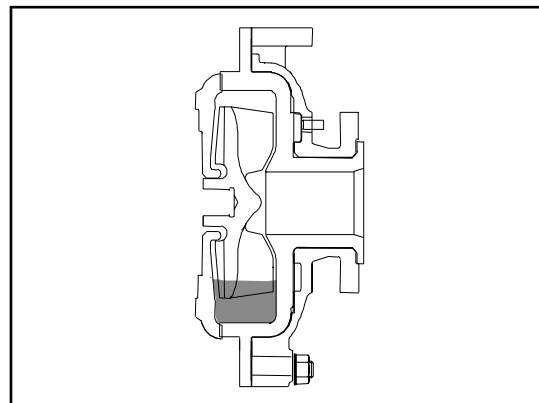

figure 2
- 3 The pumps are stopped at the end of the batch so failure to flush out the solids, prior to shutdown, results in the solids settling in the volute. During the next cycle as the pump starts it has to move the slug present at the bottom of the volute, resulting in excessive shaft deflection. (See figure 2)